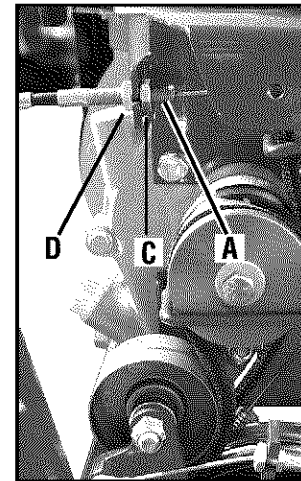

Figure 5-6: Move threaded adjuster (A) to left to increase belt tension.
5. Release the Reverse Clutch Control knob. Unthread the inner jam nut (C, Figure 5-6) one to two turns and pull the threaded cable adjuster (A, Figure 5-6) to the left until the inner jam nut rests against the bracket.
6. Prevent the inner jam nut (C) from turning and tighten the outer jam nut (D) against the bracket. Prevent the outer jam nut (D) from turning and tighten the inner jam nut (C) against the bracket.